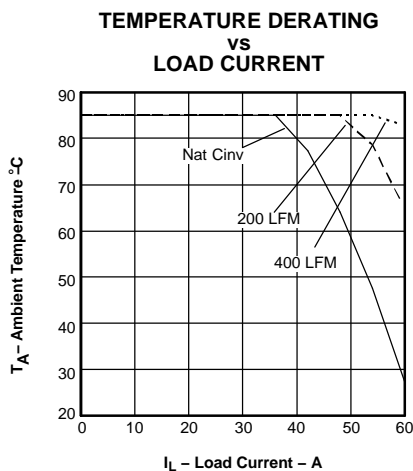

Figure 4.
- (2) SOA curves represent the conditions at which internal components are at or below the manufacturer's maximum operating temperatures. Derating limits apply to modules soldered directly to a 4 inches x 4 inches double-sided PCB with 1 oz. copper. Applies to Figure 4.